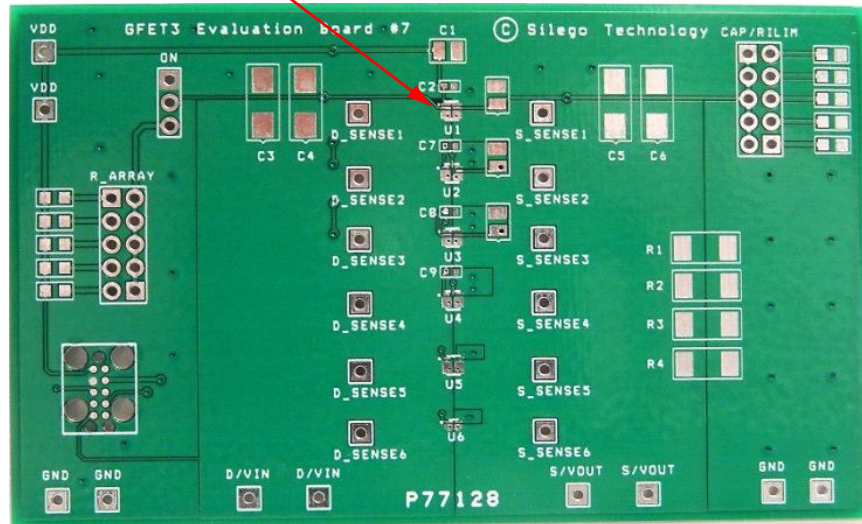

Figure 1. SLG59M1598V Evaluation Board.
2. Since the D and S pins dissipate most of the heat generated during high-load current operation, it is highly recommended to make power traces as short, direct, and wide as possible. A good practice is to make power traces with absolute minimum widths of 15 mils (0.381 mm) per Ampere. A representative layout, shown in Figure 1, illustrates proper techniques for heat to transfer as efficiently as possible out of the device;
A GFET3 Evaluation Board for SLG59M1598V is designed according to the statements above and is illustrated on Figure 1. Please note that evaluation board has D\_Sense and S\_Sense pads. They cannot carry high currents and dedicated only for RDSON evaluation.